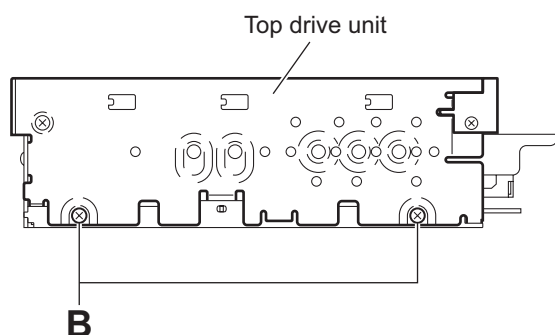

Fig.6
3.1.4 Removing the top drive unit (See Figs.6 to 9)
- (1) From the both sides of the main body, remove the four screws **B** attaching the top drive unit. (See Figs.6 and 7.)